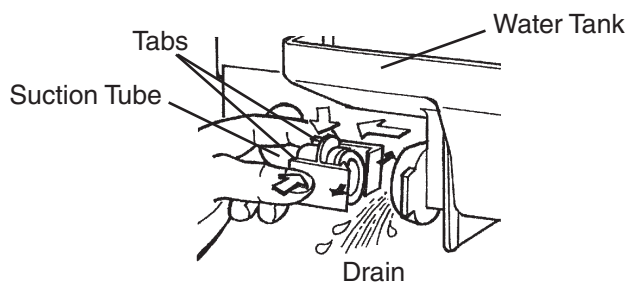

Fig. 35
- 3) Inside the ice storage bin, disconnect the suction tube by squeezing the tabs and pulling the tube clear. See Fig. 35. Allow the water tank to drain.